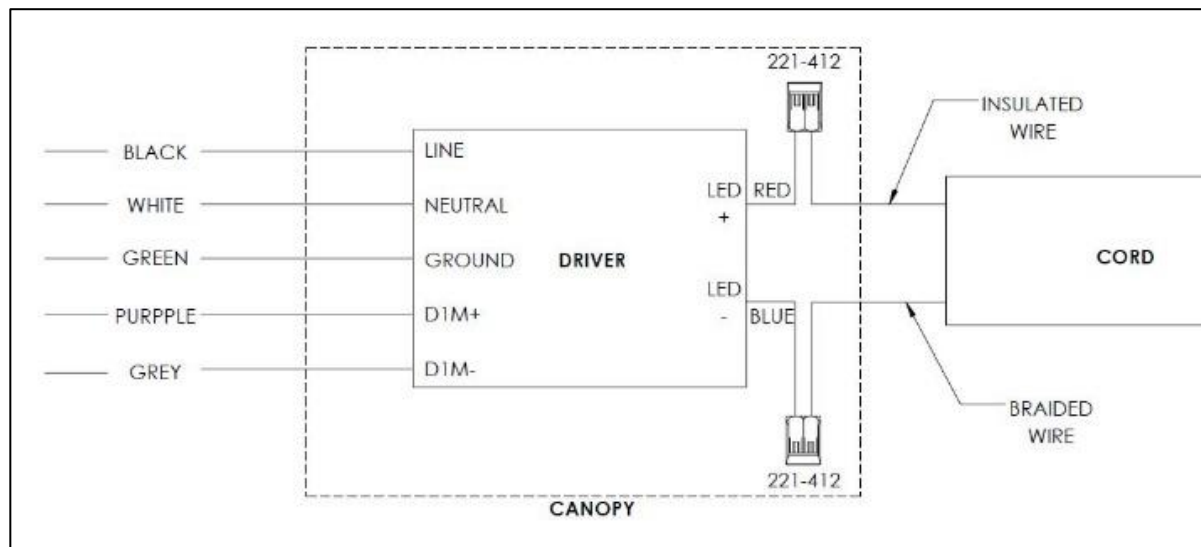

FIG. 14 – WIRE DIAGRAM FOR 24", 36", 48" AND 60" MODELS
- Connect the Fixture Cord wires as per WIRE LABEL TABLE and refer WIRE DIAGRAM as shown in FIG. 14 below for exact wire connections.